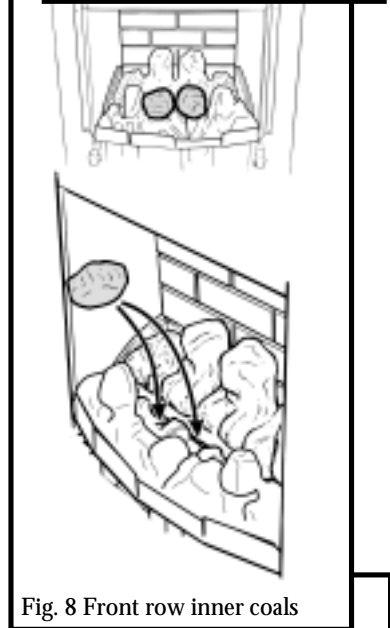

Fig. 8 Front row inner coals
5.1 Select the two largest coals. Place them in the central two valleys of the front coal (See figure 8).